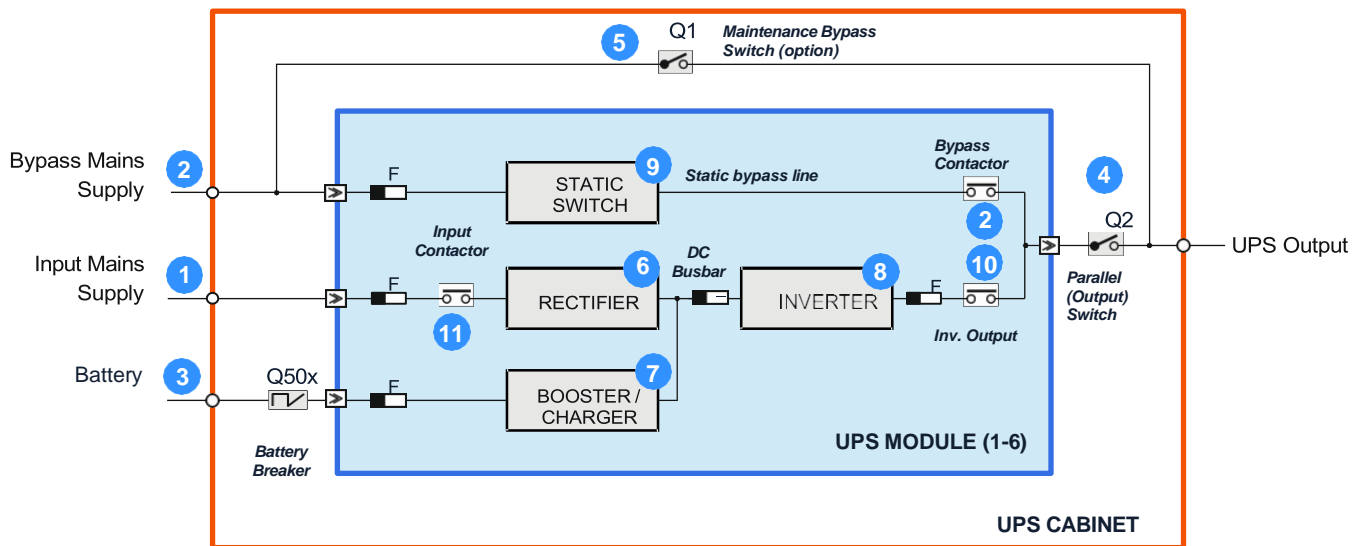

Figure 2.4 PW 9250DPA (50-300 kW) module
Figure 2.4 illustrates an internal block diagram of a single UPS module inserted into the PW 9250DPA UPS cabinet rack. As shown, the module plugs into a heavy duty connector which carries the input mains, bypass mains, battery and output supplies.
The UPS input mains and bypass mains both require a 4-wire (3-phase + N) mains feed. Although the two inputs are shown connected to separate feeds in Figure 2.4, the input mains terminals (1) and bypass mains terminals (2) are usually linked at the input busbars in a standard installation so only one mains feed is required – this is generally referred to as a ‘single input’ mains configuration in this manual, as opposed to a ‘dual input’ configuration where separate feeds are used.